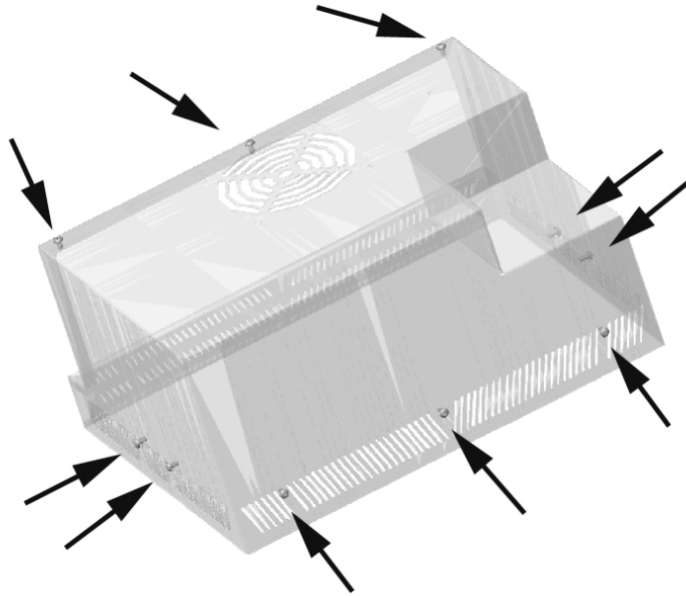

Figure 1 Screw Locations
4. Using a 2 point Phillips screwdriver remove the 10 retaining screws and spring washers which hold the enclosure in place. See Figure 1 for location of these screws.